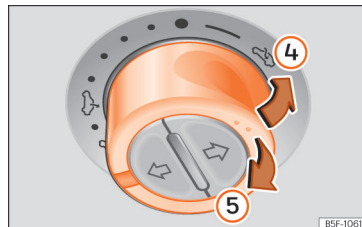

Fig. 111 On the interior roof lining: press the switch and pull on it to raise and lower the roof.
- Lift: Push the switch to position ④. **Fig. 111**
- Lower: pull the switch to position ⑤. **Fig. 111**
- *Glass roof*: within approx. 5 seconds of the activation of the anti-trap function, keep the control pulled backwards »» Fig. 111 (arrow ⑤) until the roof is completely closed.